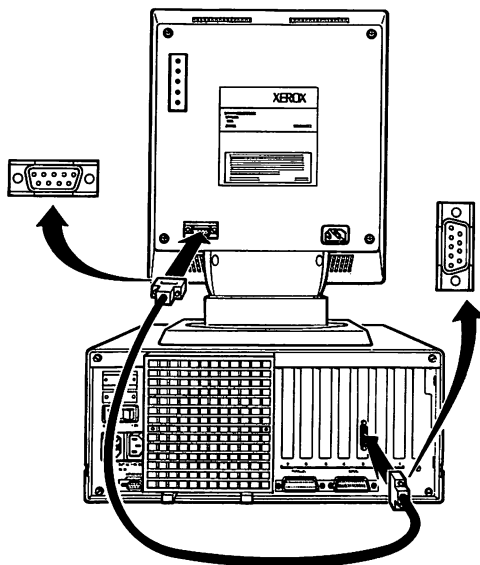

Figure 1-16. Connecting the full-page display cable.
The full-page controller board (9R80892) must have been installed in your processor so that the display connector is available for the display, as shown below. The location of the connector will depend upon where the board is installed. In Fig. 1-16, it is located in option slot 3. If your processor does not have this board installed, your service representative will install it for you.
- . Look at the plug on the end of the display cable. Notice that the ring around the pins is wider on one side. Turn the plug so that the wider side is on the left. (See Fig. 1-16.)